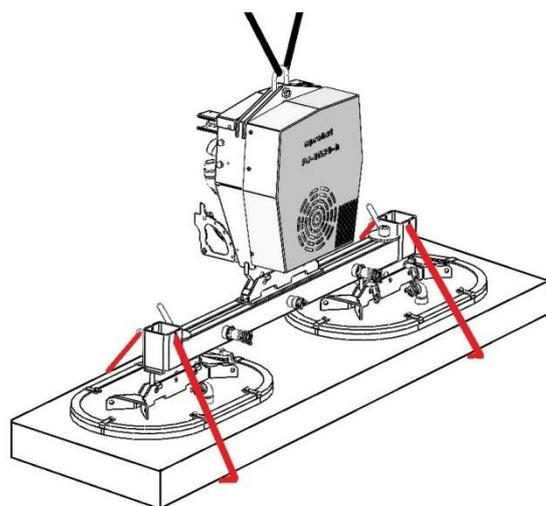

Fig. 1
The suction plates must always have the same distance (A) to the vertical centre axis of the spreader bar/traverse (see figure 1).
- The safety chains must fit tightly to the load, in that way that the load is held in case of a vacuum failure (Fig. 1)